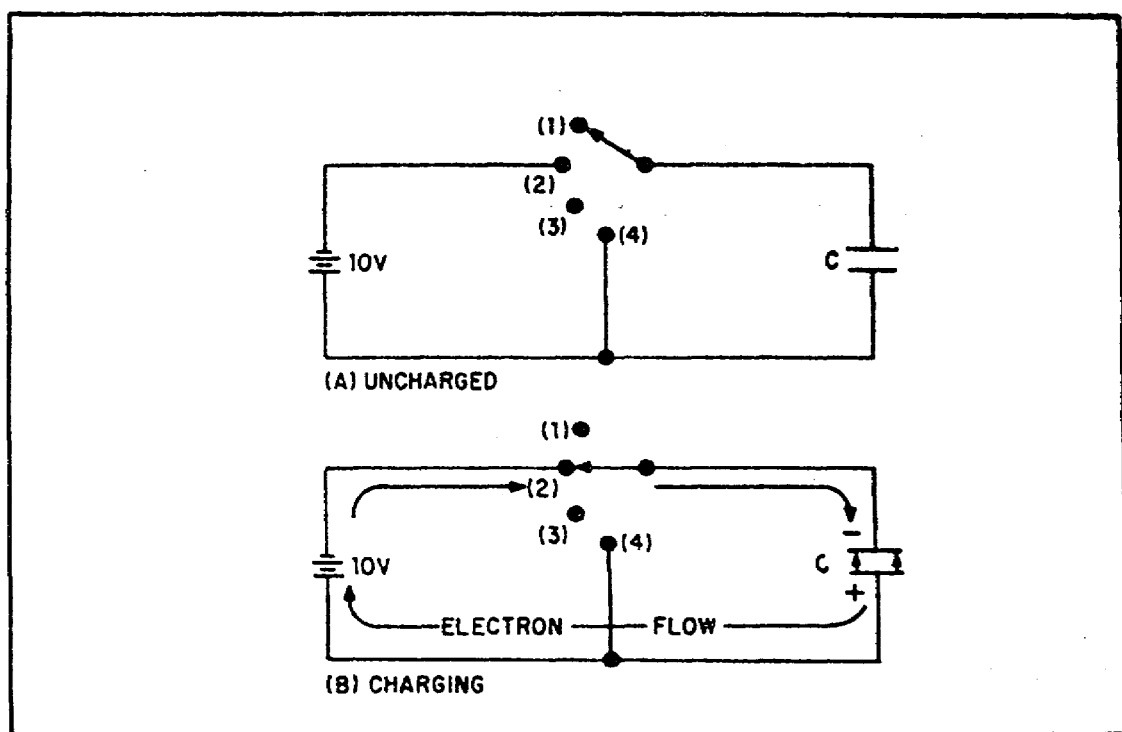

FIGURE 31. CHARGING A CAPACITOR.
(1) *Charging.* In order to better understand the action of a capacitor in conjunction with other components, the charge and discharge actions of a purely capacitive circuit are analyzed first. For ease of explanation the capacitor and voltage source shown in figure 31 are assumed to be perfect (no internal resistance), although this is impossible in practice.
In figure 31, view A, an uncharged capacitor is shown connected to a four-position switch. With the switch in position 1 the circuit is open and no voltage is applied to the capacitor. Initially each plate of the capacitor is a neutral body and until a difference of potential is impressed across the capacitor, no electrostatic field can exist between the plates.
At the instant the switch is thrown to position 2 (figure 31, view B, on the previous page), a displacement of electrons occurs simultaneously in all parts of the circuit. This electron displacement is directed away from the negative terminal and toward the positive terminal of the source (the battery). A brief surge of current will flow as the capacitor charges.